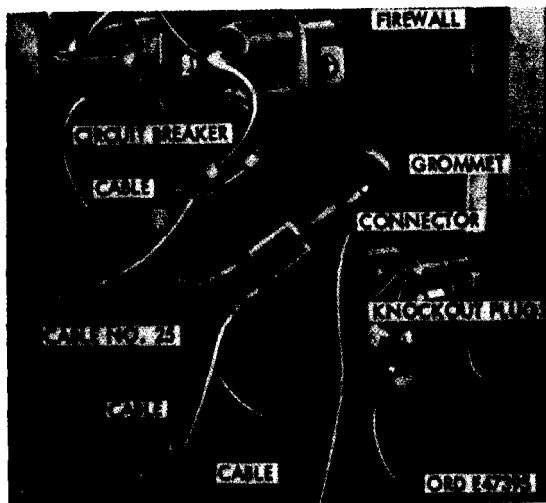

Figure 606. Knockout plugs on firewall
- (1) Remove the two knockout plugs (fig. 606) from left side of firewall Make
- (2) Connect cable (KK fig. 599) to single end of connector (LL, fig, 599). Connect cable (RR and MM, fig. 599) to double end of connector. Thread cable on single end of connector through the 1-1/2-inch hole in firewall (engine side of cab side) and connect to terminal on circuit breaker (fig. 612). Fit grommet in firewall (fig. 606).
- (6) Disconnect cable No. 25 (fig. 606) from circuit breaker and connect it to cable leading from connector (LL, fig. 599). Connect other cable leading from connector (LL, fig. 599) to the circuit breaker from which No, 26 cable was disconnected.